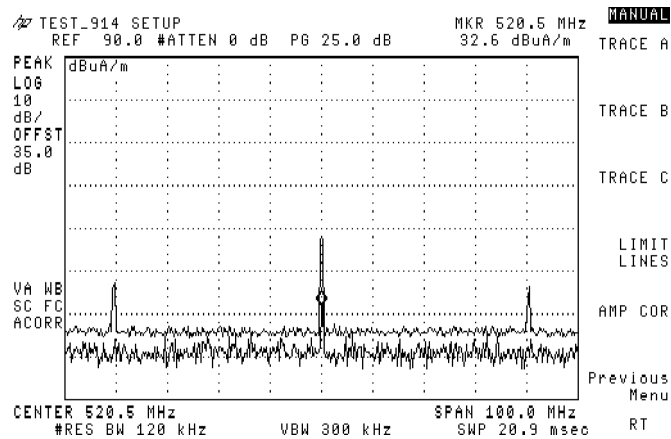

Figure 3-6. Trace to Internal Selected
21. Press **Trace⇒Internal**. See Figure 3-6.